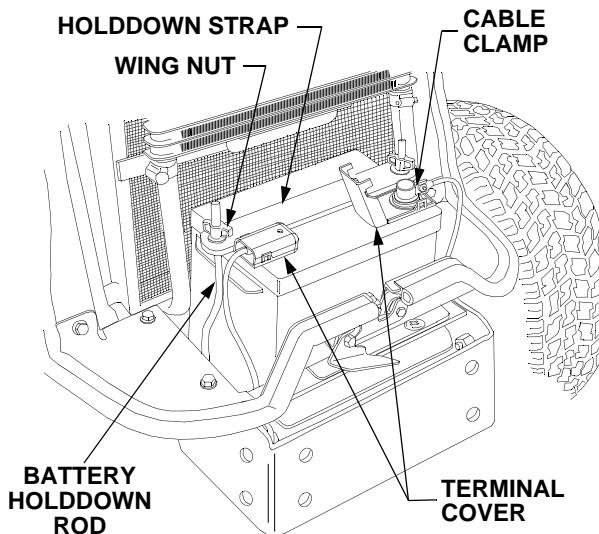

Figure 36
- Remove the two wing nuts and the battery holdown strap from the battery holdown rods. See Figure 36.
- Spread the locking clips on the sides of the terminal covers and lift the tops of the covers to expose the battery connections. See Figure 36